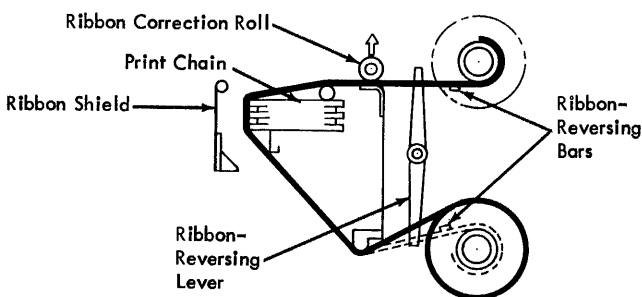

Figure 32. Schematic of Ribbon Mechanism
2. Wind ribbon onto the empty spool until the ribbon-reversing bar is on the spool. This is a metal strip that is permanently fastened to the ribbon. It reverses the direction of the ribbon when all the usable ribbon is on one spool. Therefore the ribbon-reversing *bar* must always be positioned between the ribbon-reversing *lever* and the spool (Figure 32).